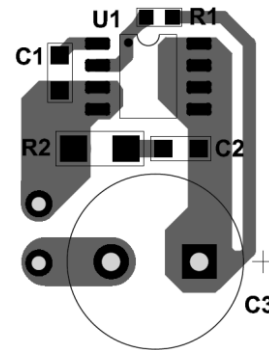
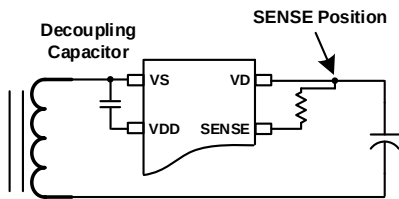

Figure 5: Layout Example in a Flyback High-Side Application
Figure 6: Voltage Sensing for VD/SENSE
Figure 5 shows a layout example for a HS application of a flyback power supply, which is a single layer with a through-hole transformer. R2 and C2 comprise the internal MOSFET's RC snubber network. The sensing loop (SENSE to the MOSFET drain) is optimized and kept separate from the power loop. The VDD decoupling capacitor (C1) is placed beside VDD.
Efficient PCB layout is critical for stable operation. For the best results, refer to Figure 5 on page 10 and Figure 6, and follow the guidelines below:
1. Connect the SENSE pin to different positions for an adjustable turn-off time during the fast transients in CCM. In general, the further the junction point is from VD, the earlier the SR turns off (see Figure 6).